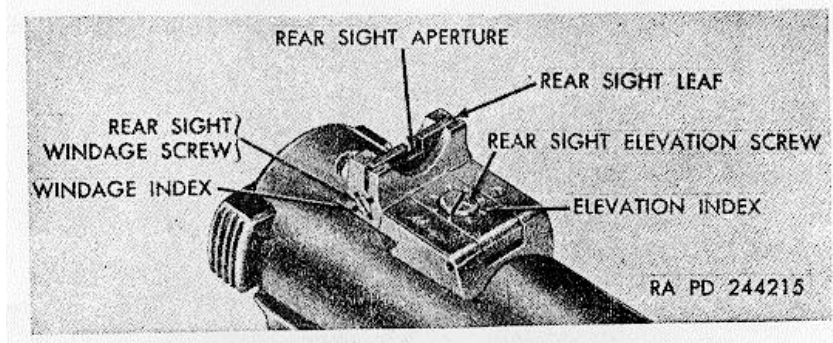
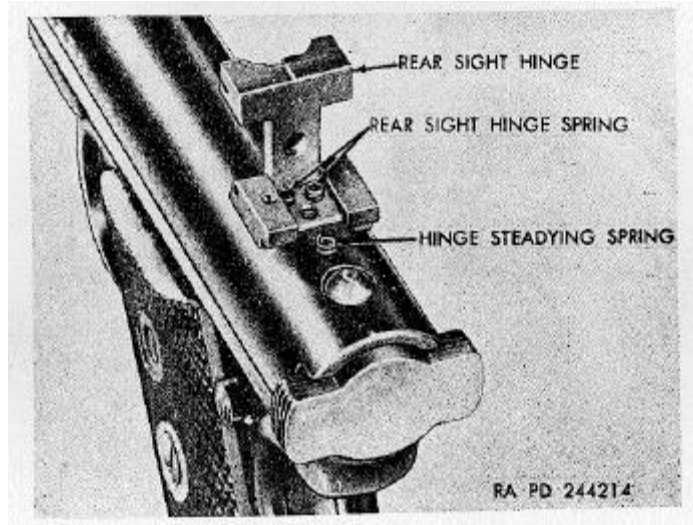

Figure 20. Micro rear sight (Ruger).
Figure 21. Micro rear sight with elevation screw removed (Ruger).
- (1) *General.* The micro rear sight fits into a dovetail slot at the rear of the receiver. The micro rear sight hinge (fig. 21) is pivoted at the front of the rear sight base. The hinge is held at a set elevation by two rear sight hinge springs and a hinge steadying spring. The micro rear sight leaf (fig.20) slides in a slot in the hinge. It is spring 22 loaded and can be moved by the rear sight
- (2) *Rear sight elevation screw.*
- (a) The rear sight elevation screw (fig. 20) is located at the rear of the receiver in front of the micro sight leaf. The serrated head of the screw rests against a spring-loaded ball to give positive positioning. Spring loading of the click ball is obtained from the micro rear sight hinge springs (fig. 21) which are eccentric to the elevation screw.
- (b) The micro rear sight hinge (fig. 21) has elevation index (fig. 20) marks engraved at 45-degree intervals corresponding to each click. Turning the elevation screw clockwise lowers the impact of the bullet 1/2 inch at a 15-yard range.
- (3) *Rear sight windage screw.*
- (a) The rear sight windage screw (fig. 20) is located at the right side of the receiver under the micro sight leaf. The screw has a cup end which rests against a cone shape on the leaf which makes the click sounds. The micro sight leaf is spring loaded to provide for movement of the leaf. This spring also acts on the click cone.
- (b) The micro rear sight base has windage index marks (fig. 20) engraved at 90-degree intervals corresponding to one click. Turning the windage screw clockwise, one click, moves the impact of the bullet 1/2 inch to the left at a 15-yard range.